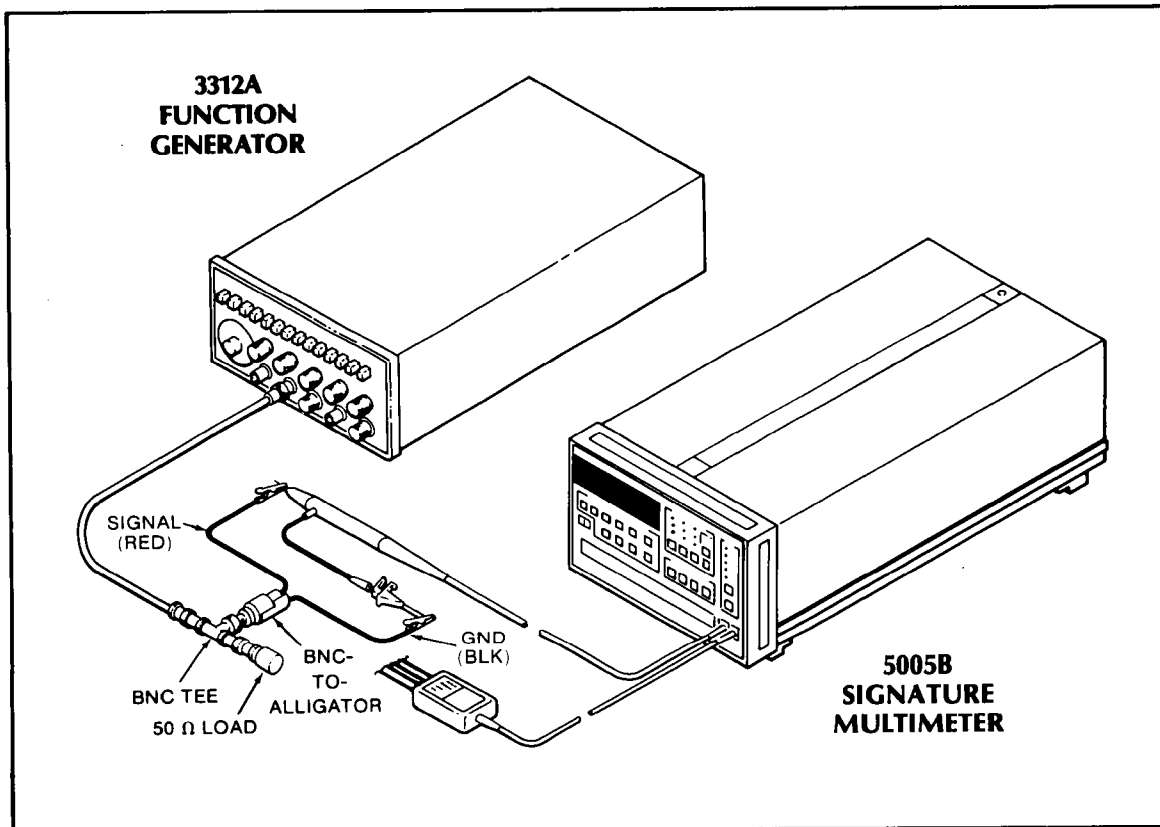

Figure 4-1. Frequency Counter Operation Verification Test Setup
- b. Connect equipment as shown in *Figure 4-1*.